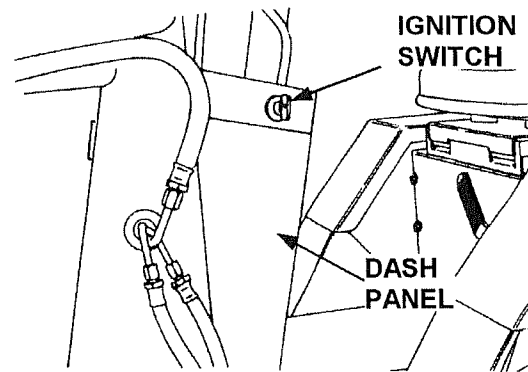

FIGURE 18
1. (See figure 18) Remove dash panel.